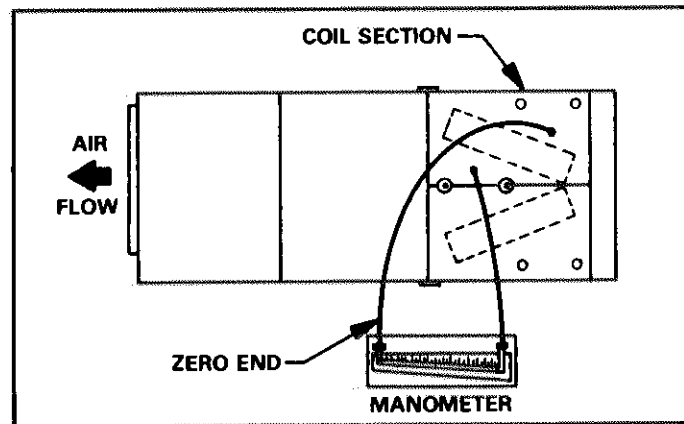

FIGURE 3
- 1 - Remove snaphole plugs from unit test holes. Connect zero end of an inclined manometer to entering air side of coil. Refer to Figure 3. Insert hoses 1/4 inch past the inside edge of cabinet insulation. Seal around hoses with permagum or sealing compound.